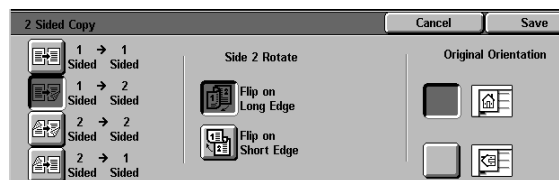

Figure 14: 1 to 2 Sided Copying option
- **1 to 2 Sided** icon for two-sided copies from one-sided input, as illustrated in Figure 14. Touch **Flip on Long Edge** for two-sided, head-to-head output, as for books. Touch **Flip on Short Edge** for two-sided, head-to-toe output, as for calendars.